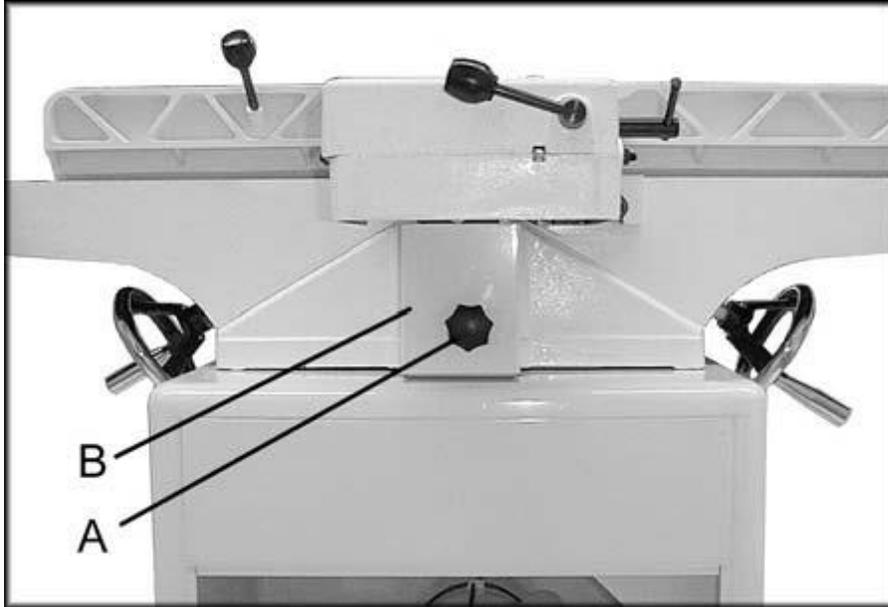

FIGURE 6
2. Remove the lock knob (A, Fig. 6) and belt guard (B, Fig. 6).